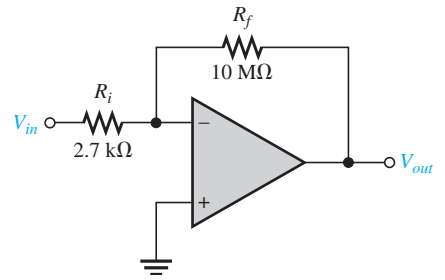

FIGURE 7-30
- 16. It has been determined that the op-amp circuit in Figure 7-30 has three internal critical frequencies as follows: 1.2 kHz, 50 kHz, 250 kHz. If the midrange open-loop gain is 100 dB, is the amplifier configuration stable, marginally stable, or unstable?